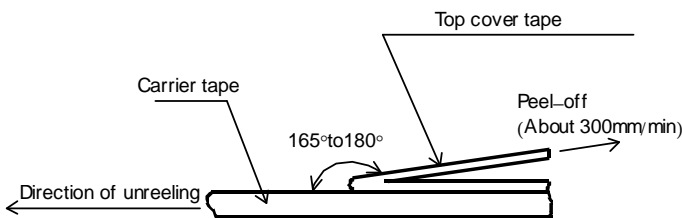
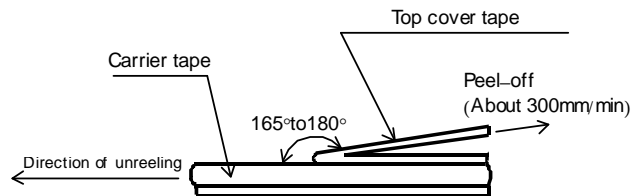

Figure-9
Figure-10
- 5). The peel strength of the top cover tape shall be within 0.1N to 0.5N on the test method as shown in the following RGC1/32,1/20: Figure-9, RGC1/16S, 1/16, 1/10, 1/8: Figure-10.